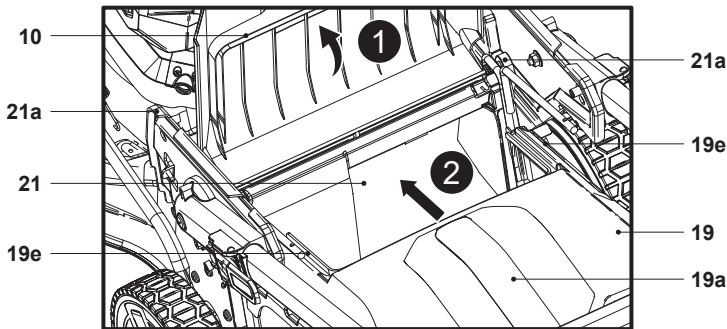

Fig. 6
3. Open the deflector guard (10) and hold it in position (Fig. 6, step 1).
4. Carry the grass catcher (19) by its carry handle (19a).
5. Align the two catcher hooks (19e) with the spring hooks (21a) and hang the grass catcher (19) onto it (Fig. 6, step 2).
6. Carefully release the deflector guard (10) afterward.